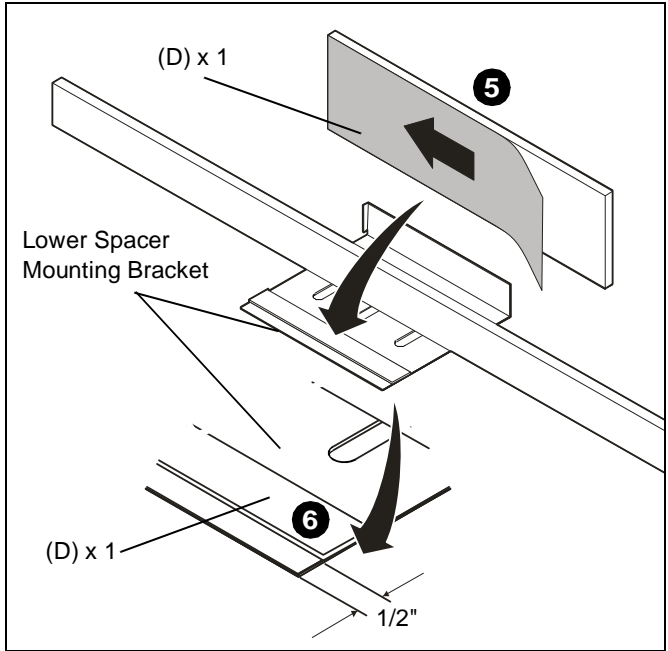

Figure 3
5. Remove paper from adhesive back of new pad (D). (See Figure 3)
6. Affix new pad (D) to lower spacer mounting bracket 1/2" away from bottom edge of bracket. (See Figure 3)